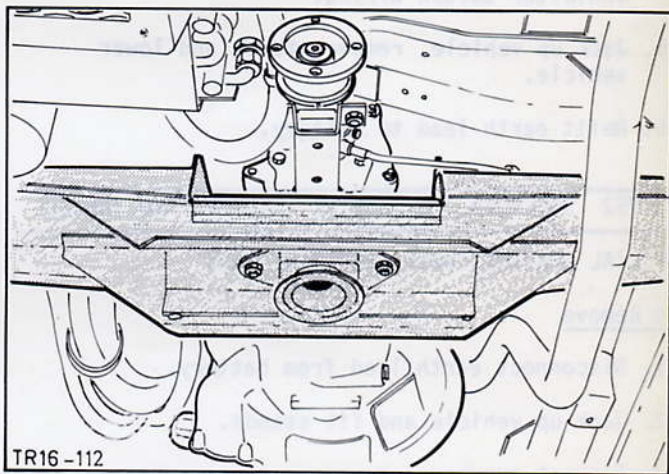

Fig.13. Refitting gearbox crossmember.
15. Refit gearbox crossmember to body and overdrive unit, Fig.13.